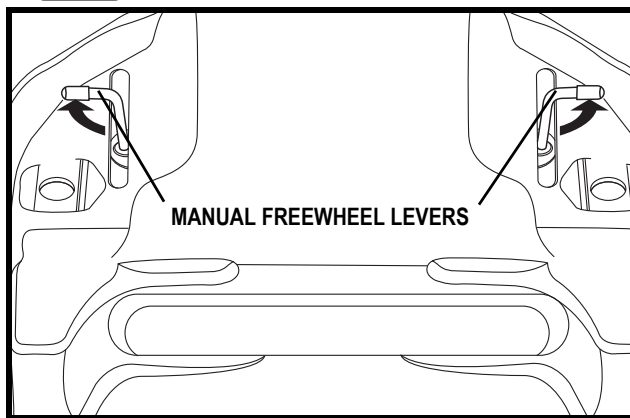

Figure 7. Drive Disengaged (Freewheel Mode)
For your convenience, your power chair is equipped with two manual freewheel levers. See figures 7 and 8. These levers allow you to disengage the drive motors and maneuver the chair manually.
1. Turn the freewheel levers outward to disengage the drive motors (freewheel mode). See figure 7.